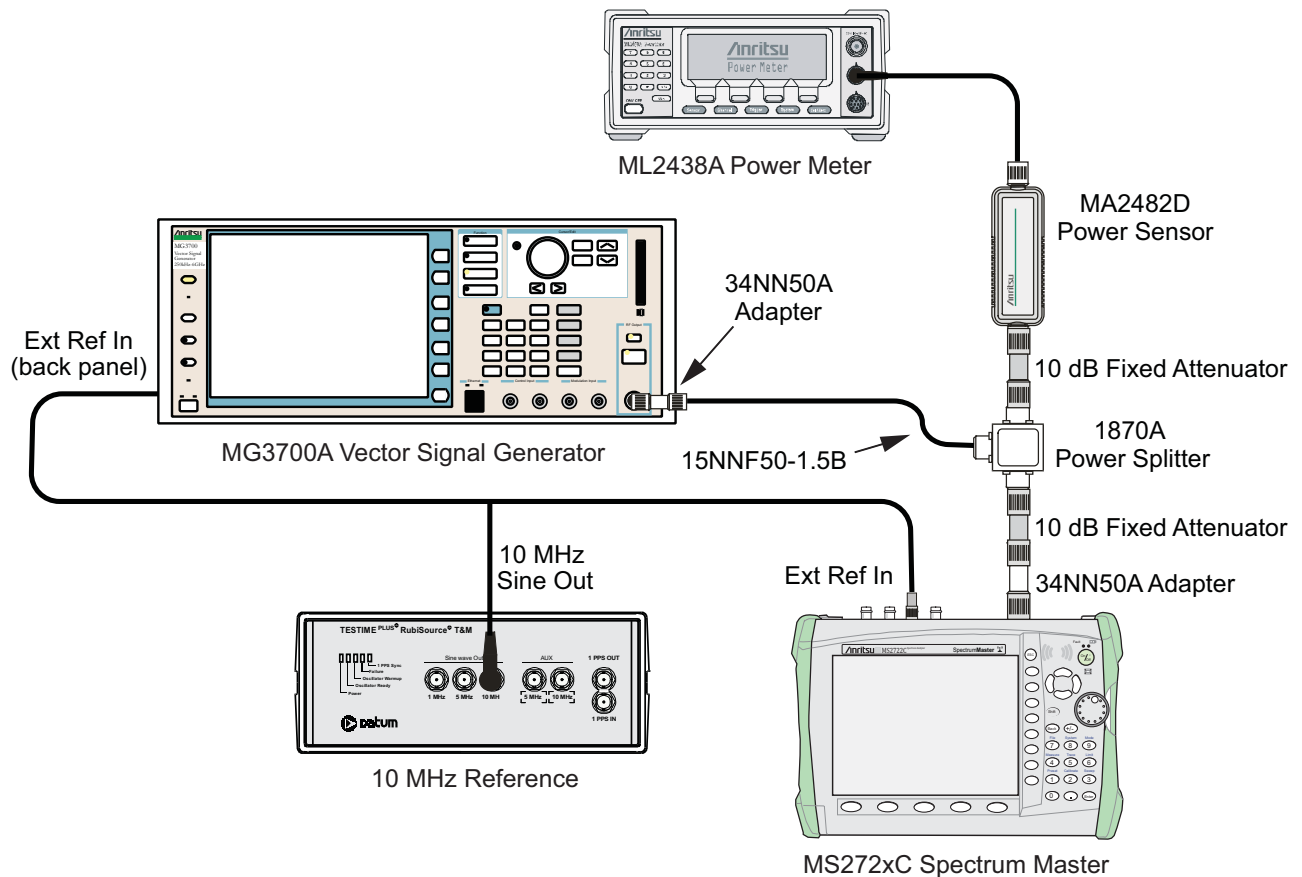

Figure 3-12. LTE Signal Analyzer Option Verification
4. Connect the Power Sensor, 1870A splitter, 10 dB attenuators (quantity 2), as shown in Figure 3-12.